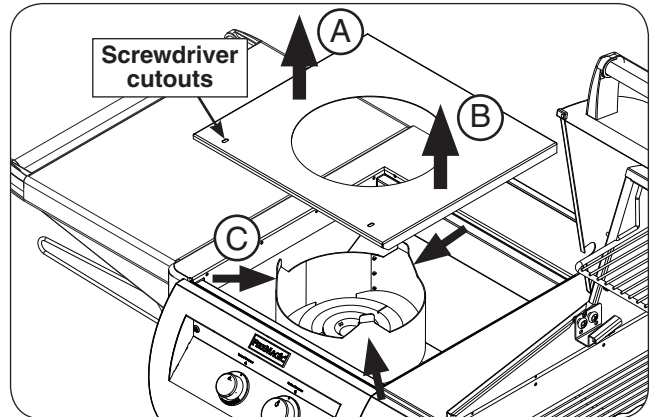

Fig. 42-3 Interior protection plate removal
9. Lift up the interior protection plate from the left side, then lift up from the right side (see Fig. 42-3, A and B).
10. While lifting the plate upward, flex the collimator inward to completely free the protection plate (see Fig. 42-3, C).